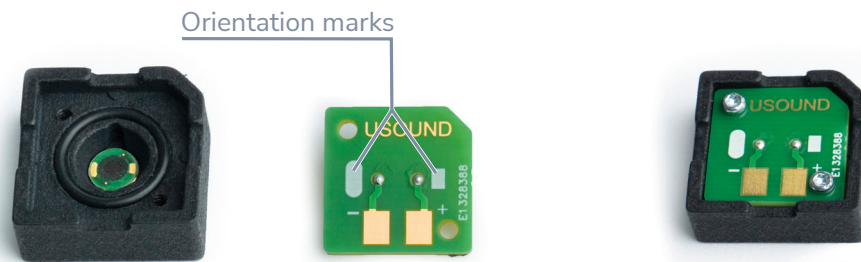

Figure 3: Speaker box with the MEMS speaker and connection PCB (reference photo with UJ-E1040C06).
- Put the MEMS speaker inside the speaker box with the contact pads facing up, as shown in Figure 3
- Place the connection PCB, with the required cables soldered to it, on the speaker box. Make sure the contacting pads shape on the speaker and the orientation marks on the connection PCB match, as seen in Figure 3